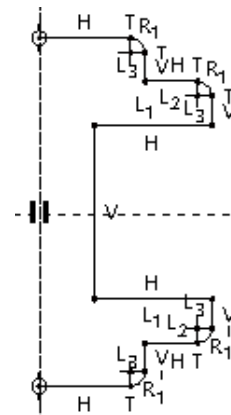

Figure 3-68 Sketch after applying constraints with the weak dimensions turned off for clarity
- d. Draw the sketch using sketching tools, apply dimensions, and modify dimension values, refer to Figure 3-68 through 3-70.
3. One by one select the two horizontal lines with the constraint symbol **L₁** shown in Figure 3-68 to apply the equal length constraint.
4. One by one select the two horizontal lines with the constraint symbol **L₂** shown in Figure 3-68 to apply the equal length constraint.
5. Select the vertical lines with the constraint symbol L_3 shown in Figure 3-68 to apply the equal length constraint.